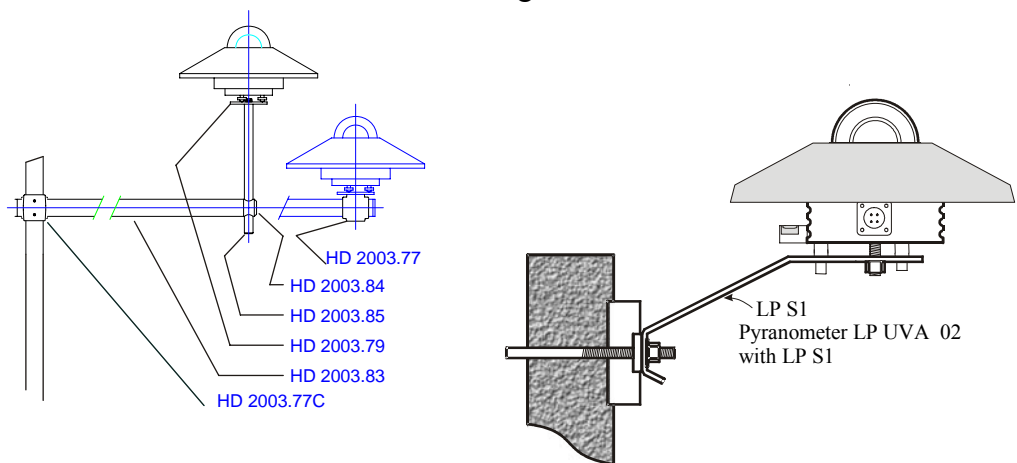

Fig. 5
- The LP S1 mounting kit (figure 5), supplied on demand as an accessory, allows an easy mounting of the radiometer on a mast. The mast maximum diameter shall not exceed 50 mm. The operator shall take care that the mast height does not exceed the radiometer plane to avoid measurement errors caused by any reflection or shadow of the mast itself. To fix the radiometer to the mounting bracket, remove the shade disk loosening the three screws, fix the radiometer, and mount the white shade disk again.